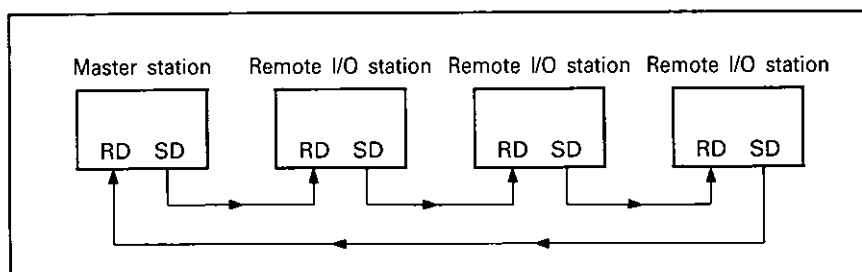

Fig. 4.3 Connection of Optical Fiber Cables
- (1) Connect the optical fiber cables as shown in Fig. 4.3.